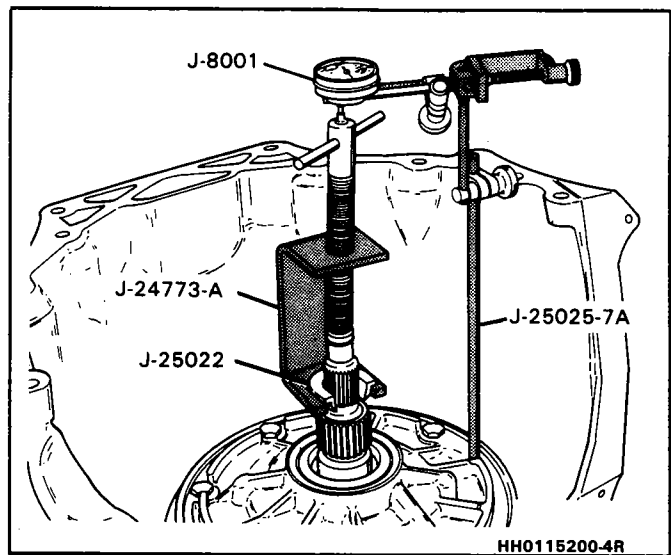

Figure 109 Overdrive Unit End Play Check
**Measure (Figures 109 and 110)**